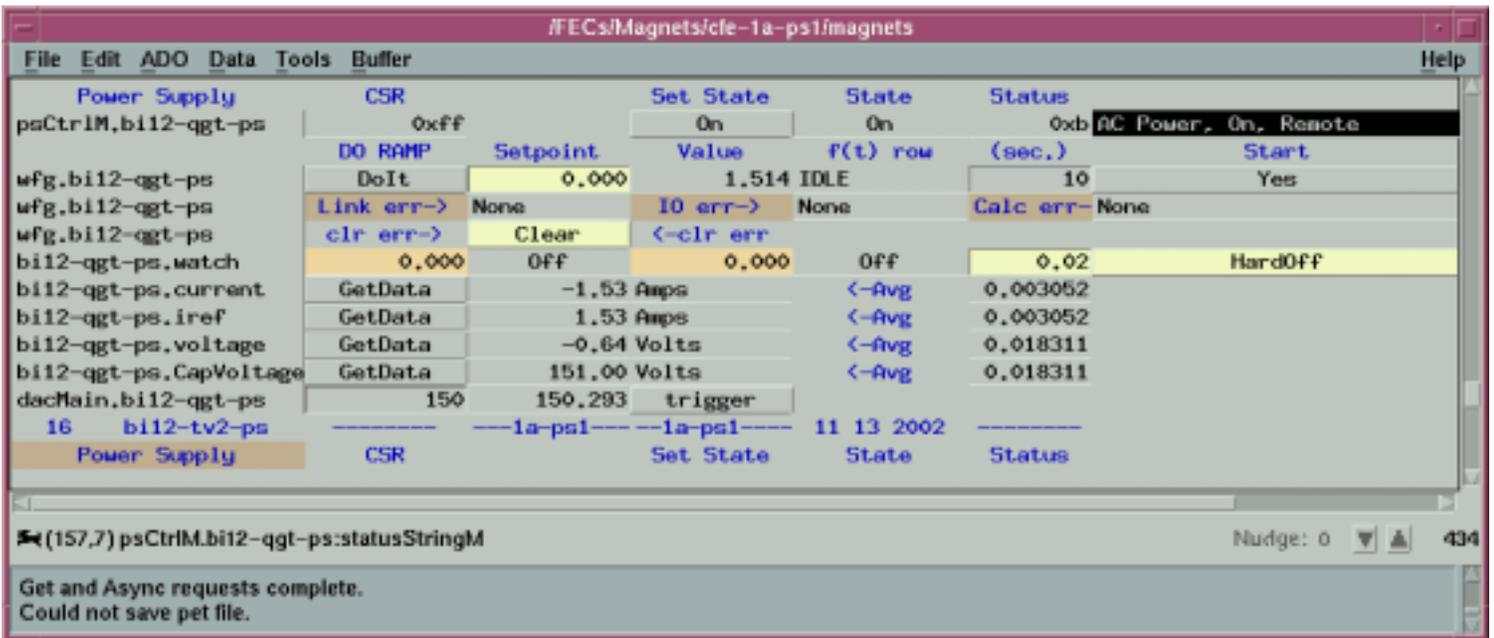

Figure 1
- 5.3 An example would be to choose **cfe-1a-ps1** and **Magnets** which brings up a pet page for bi12-qgt in alcove 1A. Figure 1 shows what the area of interest on this page looks like.